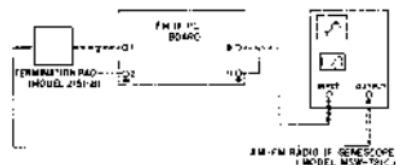

Fig. 1
1. FM IF CIRCUIT ADJUSTMENTS (See Figs. 1 and 2)